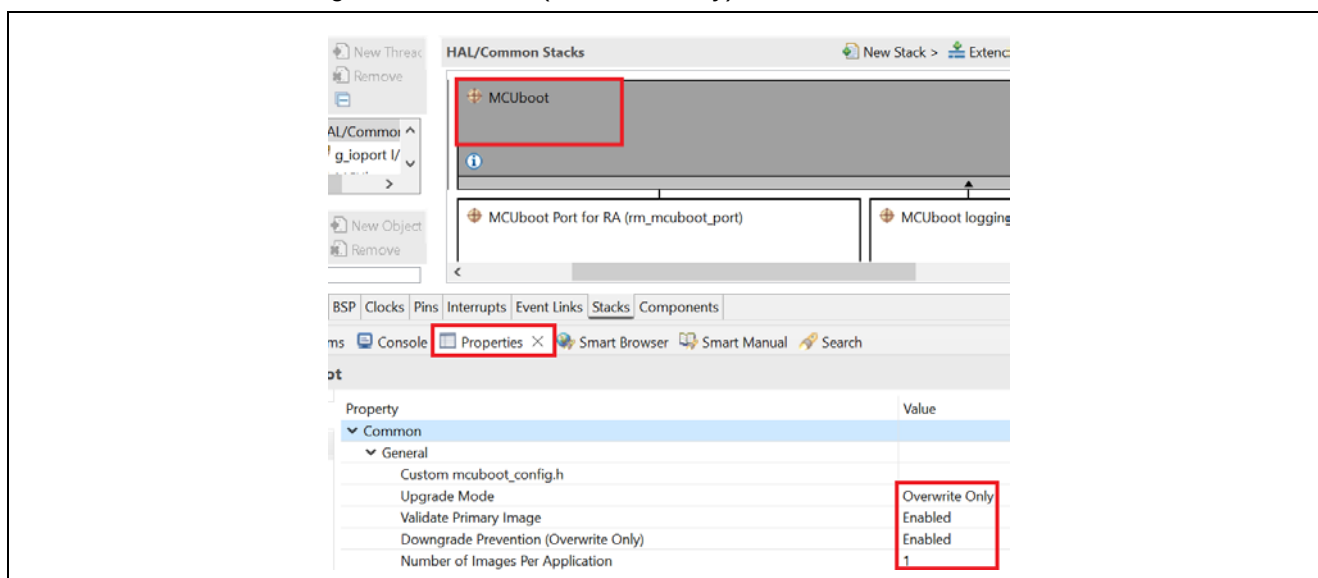

Figure 12. General Properties for MCUboot
- For project **ra_mcuboot_ra2e1** and **ra_mcuboot_ra2e1_overwrite_with_signature**, use the settings in Figure 12.
- For project **ra_mcuboot_ra2e1_swap** and **ra_mcuboot_ra2e1_swap_with_signature**, update the following properties in Figure 12:
- For project **ra_mcuboot_ra2e1_dxip** update the following properties in Figure 12: